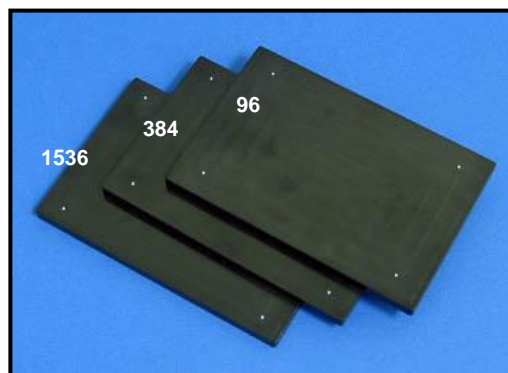

Figure 4. SBS Registration Plates, VP 903R-1536, VP 903R-384 and VP 903R-96
2. Place an alignment tool such as V&P's SBS Registration Plates, VP 903R-96, VP 903R-384 or VP 903R-1536, into a microplate location on the deck. These tools facilitate the alignment of the Pin Tool using the white spots (1mm diameter) in the 4 corner well positions (see Figure 4 below).